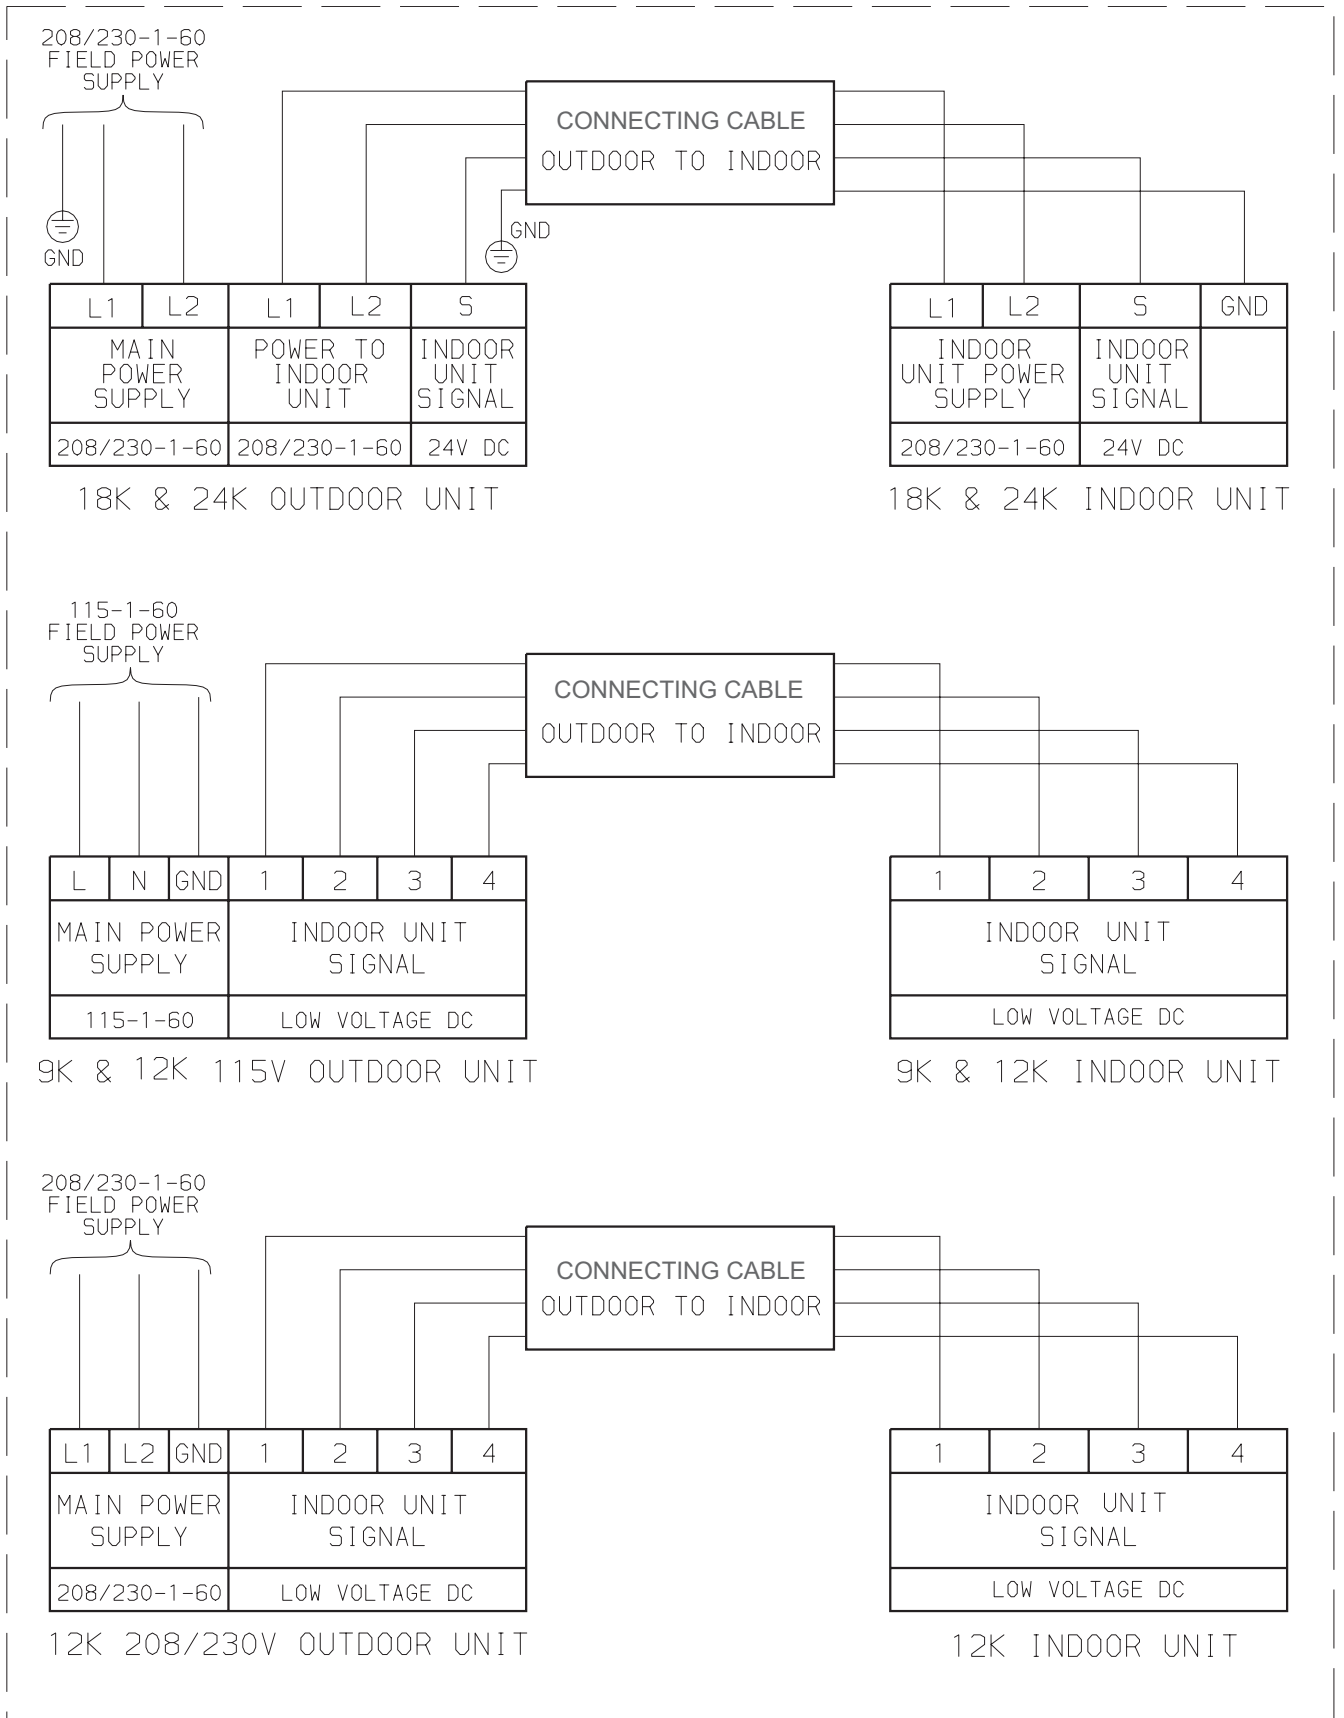

Fig. 16 – Connection Diagrams
2. Connect wires to the terminal block per the connection diagrams (Fig. 16, p.10) corresponding to the correct unit capacity and voltage.
4. Properly connect both power supply and control lines to terminal block per the connection diagram for the appropriate unit capacity and voltage. (See Fig. 16, p. 10)